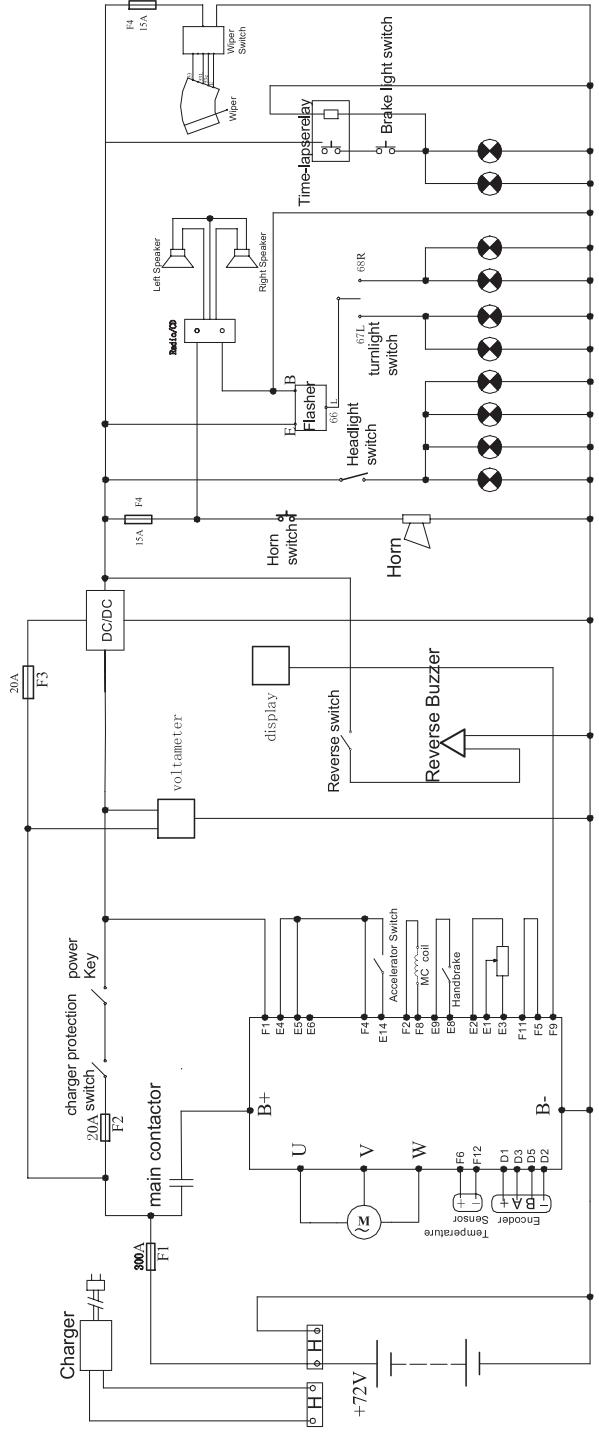

FIG.4
- 4) Wiring Diagram of AC (72V, 7.5KW) manual drive System (FIG.4)